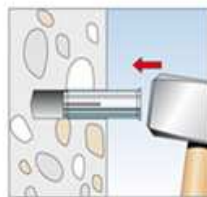

Figure 2
- 3. Drive the drive-in anchor with light hammer blows through the anchoring hole in the safe **flush with the floor** into the drill hole. You can use the thick side (Ø20mm) of the drive-in tool for this [Fig. 2].